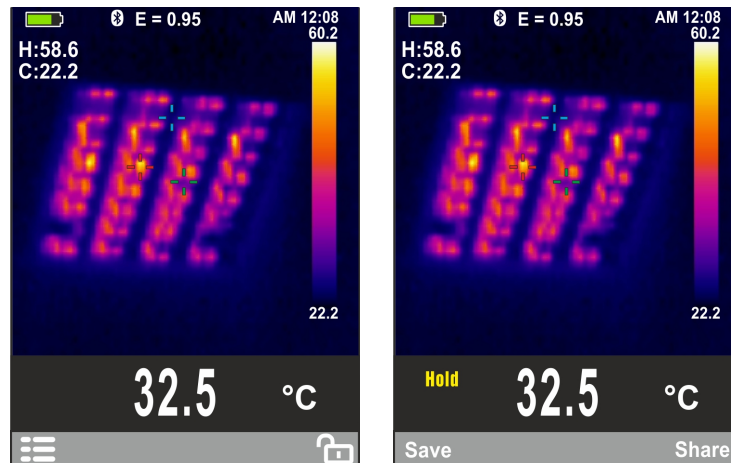

Fig. 16: Saving IR images
8. Press the trigger key **T** to freeze the screen on the display. Message “HOLD” appears on the display, together with keys **Save** and **Share** (see Fig. 16 – right side).